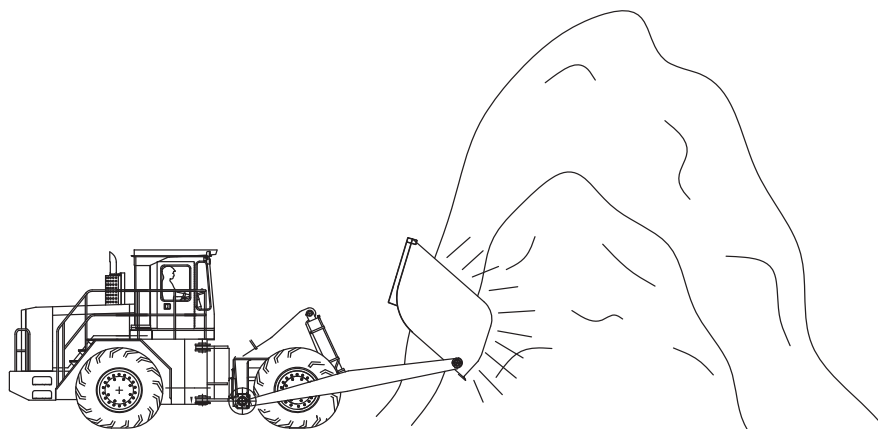

Figure 5-14
1. If it becomes necessary to knock down an overhang, use the following procedure as shown in Figure 5-14.